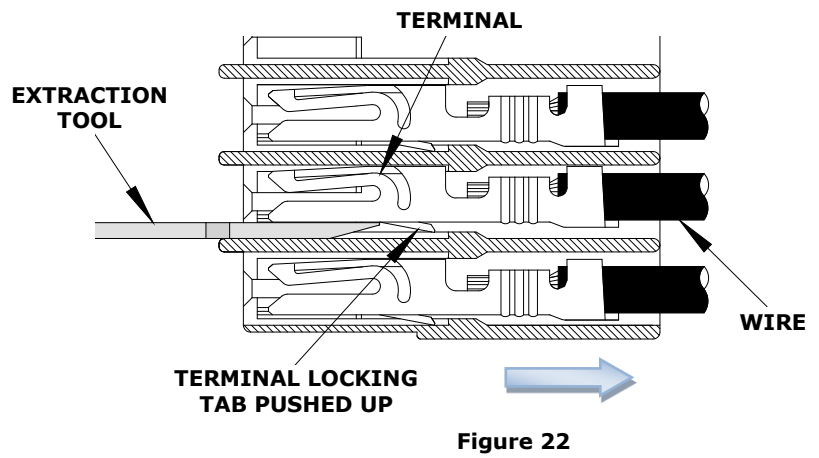

Figure 22
3. Pull the wire and terminal back through the connector slot in direction of the arrow as shown. See Figure 22.